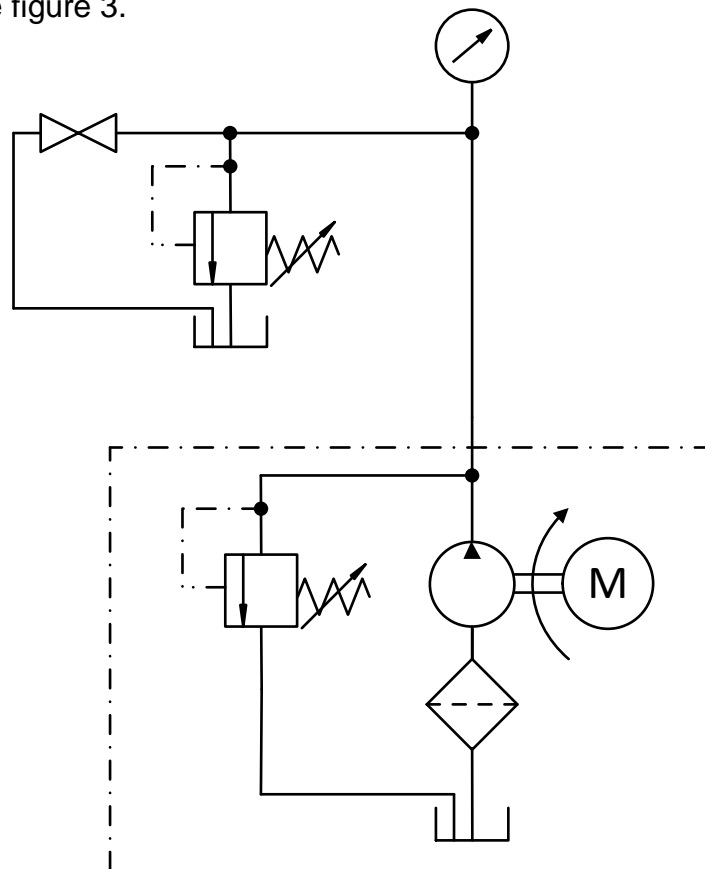

FIG 3.
D. The relief valve must always be fitted in the pressure line between the pump and the first control valve. See figure 3.
Refer to figure 3.